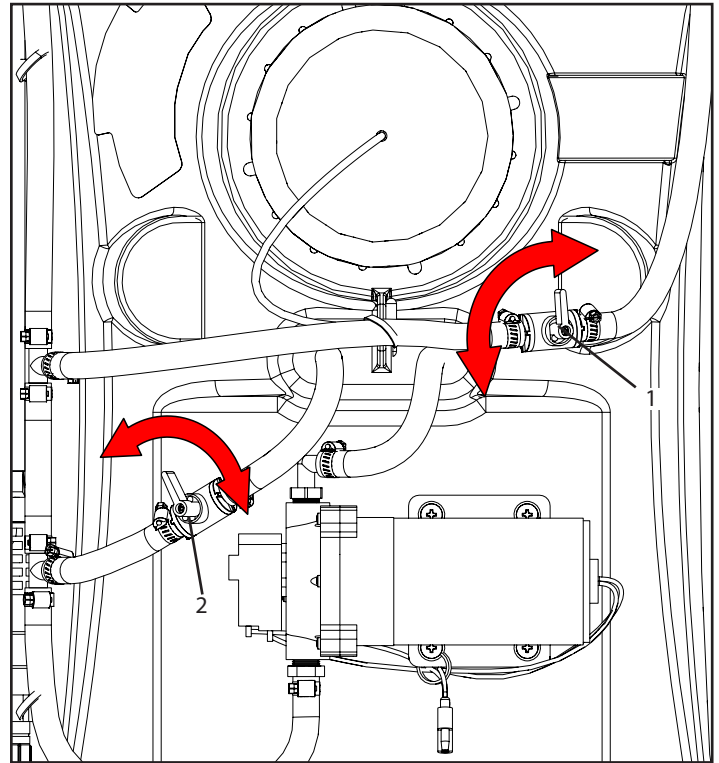

Figure 1: Boom Control Valve and Recirculation Valve
3. Prepare the sprayer for spraying by opening the Boom Control ball valve (1) (Figure 1) in the boom supply line. It is recommended that the valve is operated in full open position. NOTE: The open position for ball valves are in line with the hose, and the closed position is perpendicular to the hose.
4. The sprayer is equipped with a Recirculation ball valve (2) (Figure 1) to aid in material agitation and pressure control. The closed position for this valve is full pressure for the boom and spray wand. NOTE: This valve should be closed when spraying with the boom.
5. Start the tow vehicle and engage the pump by turning on the power switch (2) (Figure 1, pg 6) on the wiring harness. Check the sprayer to be sure that there are no leaks in any of the hoses.
8. Turn off the pump using the power switch (2) (Figure 1, pg 6) on the wiring harness.
10. After the tank is full, close the Boom Control Valve (1) (Figure 1), engage the pump by turning on the power switch (2) (Figure 1, pg 6) and allow the water to circulate to ensure proper mixing of the chemicals and water. The
12. Engage the pump by turning on the power switch (2) (Figure 1, pg 6), open the Boom Control valve (1) (Figure 1, pg 9).